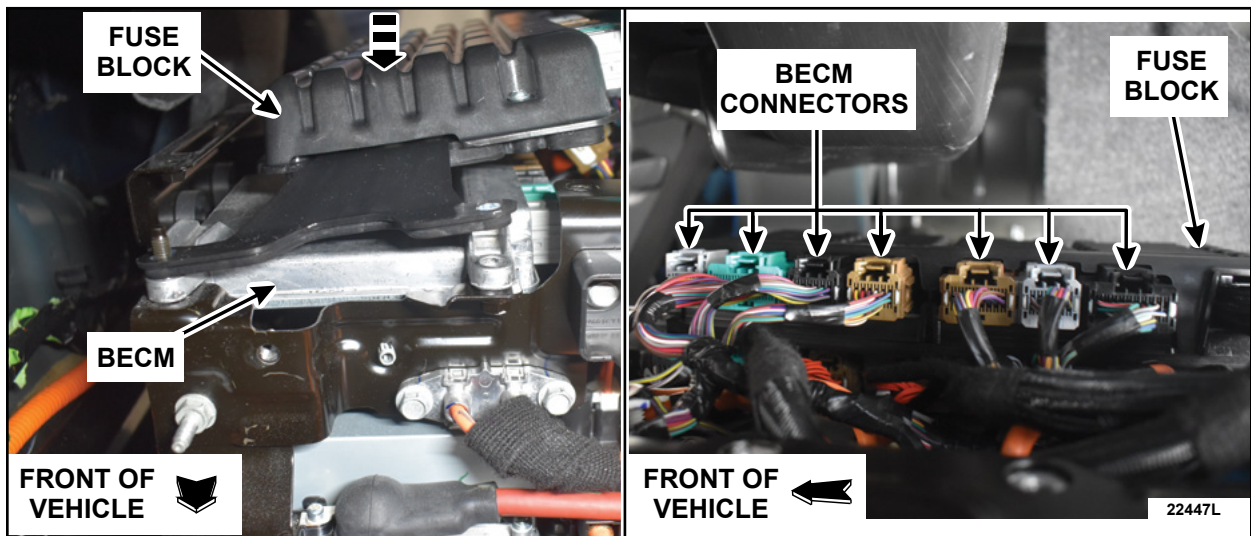

FIGURE 12
14. Position the fuse block (Item A) on top of the BECM. Connect the original 7 BECM connectors into the corresponding receptacle on the fuse block. See Figure 12.